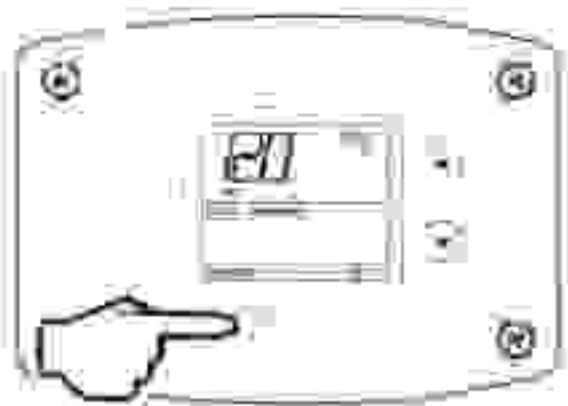

Fig. 51
1. In Service Mode, Press the 'Select' button until 'WaterTemp' is displayed in the upper right section of the water heater display. For water heaters using two temperature sensors in the tank, this will be the average reading between the two sensors. For water heaters using a single sensor, this is the reading for the sensor (Fig. 51).